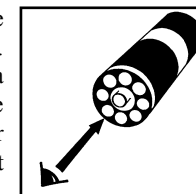

Figure 4
- a. Place the ampoule, flat end downward into the center tube of the low range comparator. Direct the top of the comparator up toward a source of light while viewing from the bottom. Rotate the comparator until the color standard below the ampoule shows the closest match (fig 4).